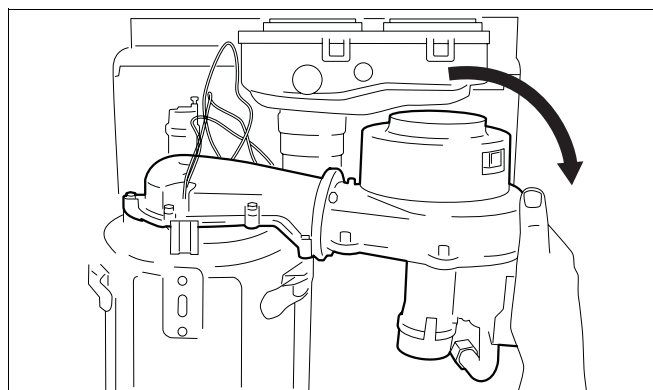

fig. 67 Remove fan
- Remove the fan by moving it in the direction of the arrow (fig. 67).